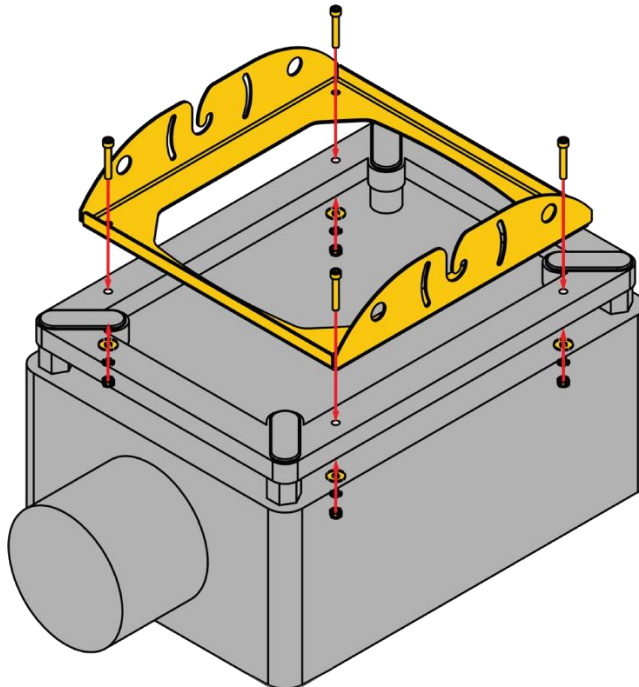

Figure 91: Step 10
Step 10: Attach the projector plate ⑥ to the Supra-5000 projector using the projector mounting kit ⑩ (4pcs.), as shown in **Figure 91**.